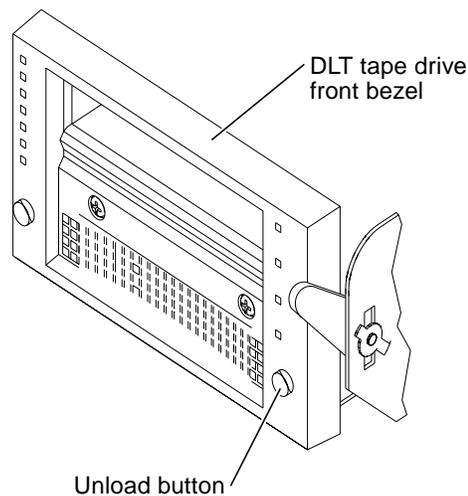

FIGURE 3-2 DLT Tape Drive Front Bezel
4. Locate the drive to be unloaded and press the Unload button (FIGURE 3-2).